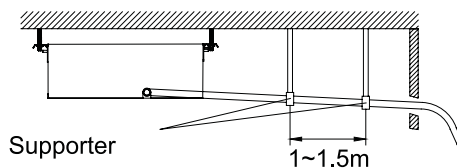

Figure 3-1-9
- (3). When the hose is long, install supporters. (Figure 3-1-9)
- (4). Always use the drain hose which has been insulated properly.